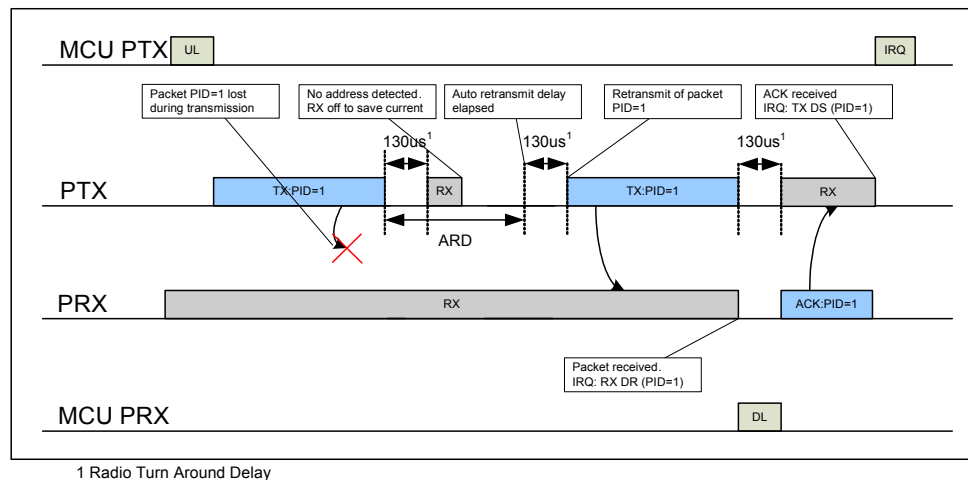

Figure 20. TX/RX cycles with ACK and the according interrupts when the first packet transmit fails
**Figure 20.** is a scenario where a retransmission is needed due to loss of the first packet transmit. After the packet is transmitted, the PTX enters RX mode to receive the ACK packet. After the first transmission, the PTX waits a specified time for the ACK packet, if it is not in the specific time slot the PTX retransmits the packet as shown in Figure 20.
When an address is detected the PTX stays in RX mode until the packet is received. When the retransmitted packet is received by the PRX (see Figure 20), the `RX_DR` IRQ is asserted and an ACK is transmitted back to the PTX. When the ACK is received by the PTX, the `TX_DS` IRQ is asserted.